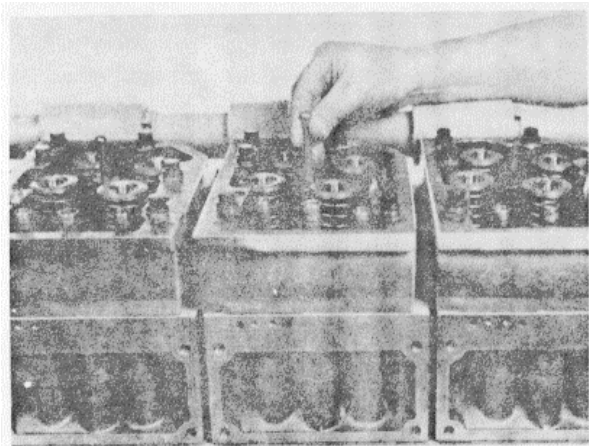

Figure 16N-59. Install the Injector Plunger Link
5. Carefully insert the injector plunger link, Figure 16N-59. Tighten the holddown capscrews alternately and evenly to 11 to 13 ft-lbs (15 to 18 N.m) torque, Figure 16N-60.